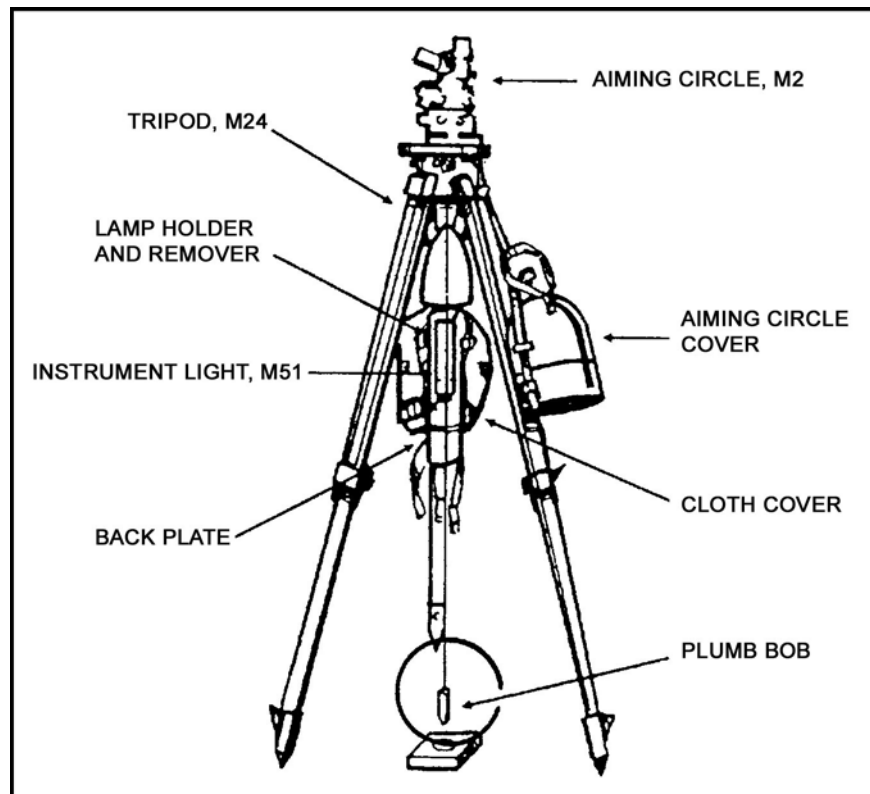

Figure 1. Aiming Mortar Barrel With Vertical Line of Aiming Circle Telescope Sight
- a. Mount and level the aiming circle over the declinating station using the plumb bob (Figure 1).